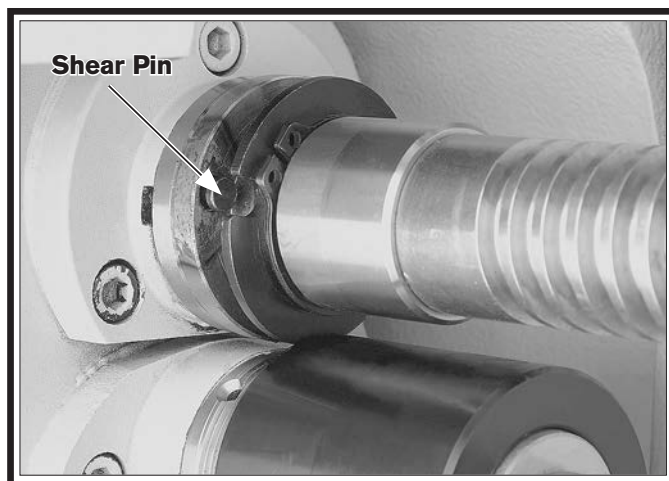

Figure 132. New shear pin installed in bore.
8. Insert the new shear pin into the bore, as shown in **Figure 132**.